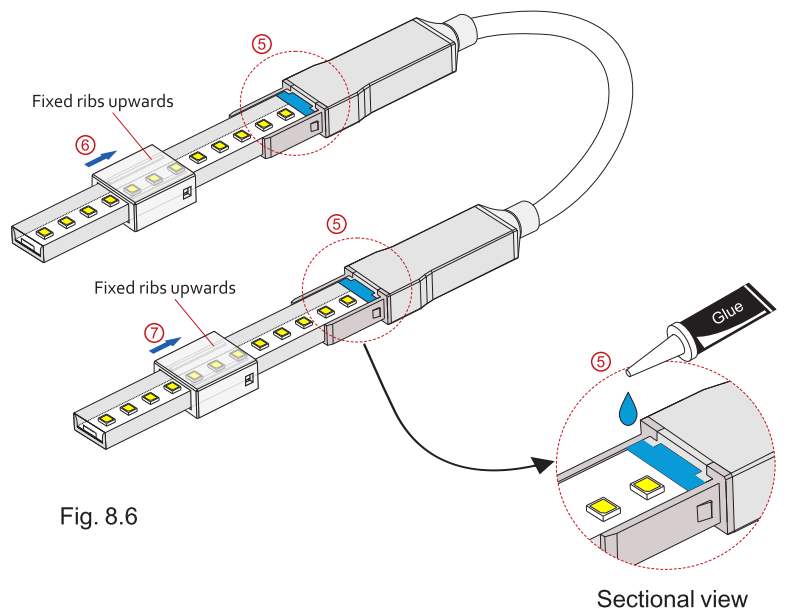

Fig. 8.6
- Fig. 8.6 — Inserting the adhesive silicon glue, and make IP65 Waterproof.